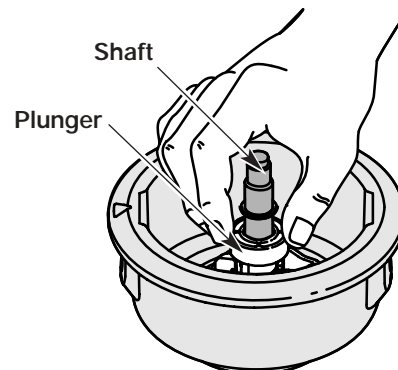

Fig. 50
5. Clean the shaft and the inner surface of the outer spool. To clean the shaft underneath the plunger, press down on the plunger (Fig. 50). Remove any dirt or debris from the shaft.